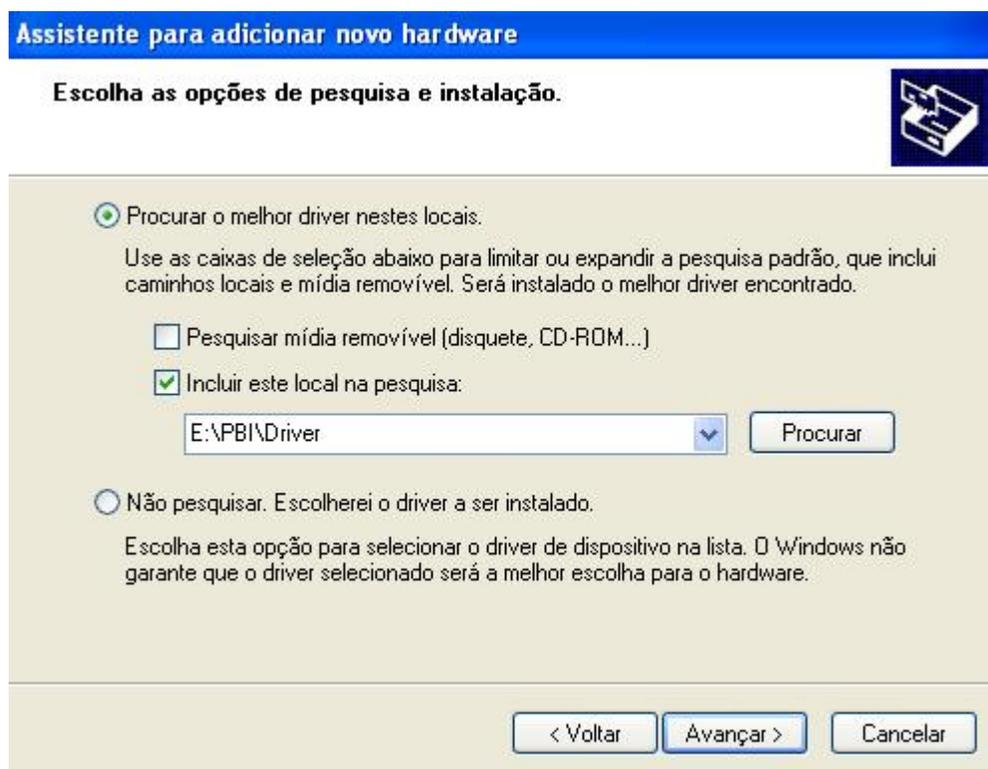

Figure 1.6 – Step-by-step driver installation (Part 2)
- 1º step: in the first installation screen, select the “Install from a list or specific location (advanced)” and click in “Advance”. See Figure 1.6.